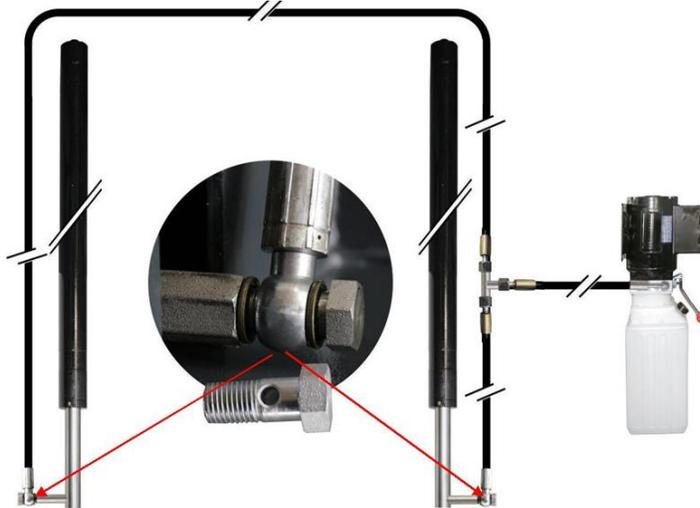

Fig.24
- Now locate the lift according to the floor plan the figure 24, use a carpenters chalk line to layout a grid for the column locations.
Connect the longer hose in between the 2 cylinders, connect the short hose in between the cylinder and the power unit. Please hand tighten to avoid thread damage, then use hand wrench to fasten completely. (Fig 24)